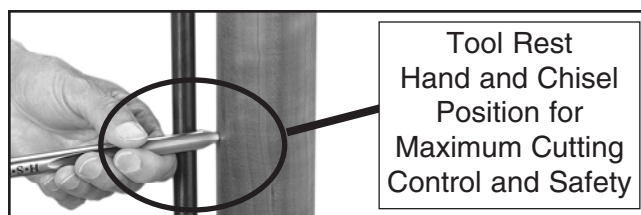

Figure 6. Hand and chisel positioning.
10. Tightly hold the chisel, and position your hand and the chisel against the tool rest as shown in **Figure 6**.